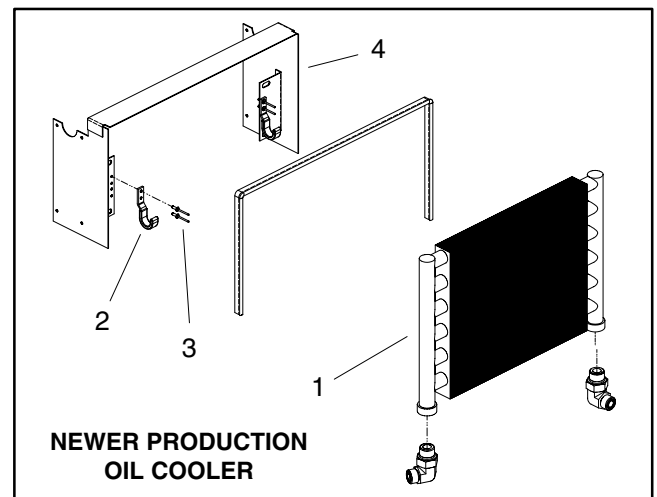

Figure 54
- B. On newer production machines (Fig. 54), lift oil cooler from hooks and remove from machine.
- B. On newer production machines (Fig. 54), place oil cooler onto hooks.